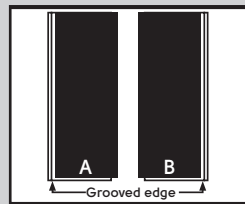

Fig. 3
3. Open several cartons/boxes of the material. The planks will be marked "A" and "B" on the back (Diagram Below). Separate the different planks in stacks keeping the edges the same direction. Shuffle the planks in each stack to achieve a more natural look, for installation (Fig 3).